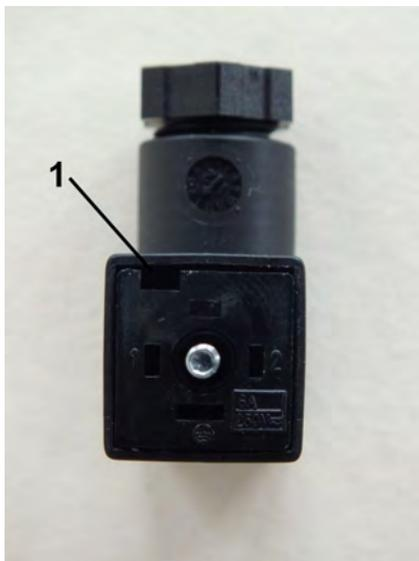

Fig. 24: Remove inner section
3.  Remove the inner section from the socket by inserting a flat-bladed screwdriver into the slot (Fig. 24/1) and carefully pry out the inner section.
7.  Place the inner section (Fig. 24) back into the socket and push until it locks on.